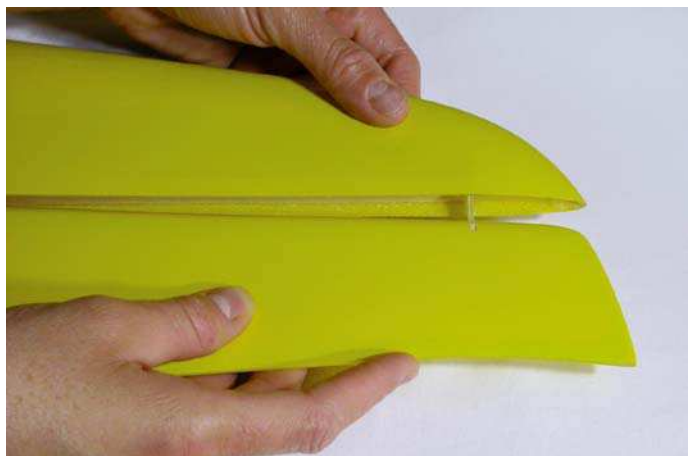

Fig.46: Mount the rudder.
- mount the rudder on the fin fitting the support with the notch (see figure 46);